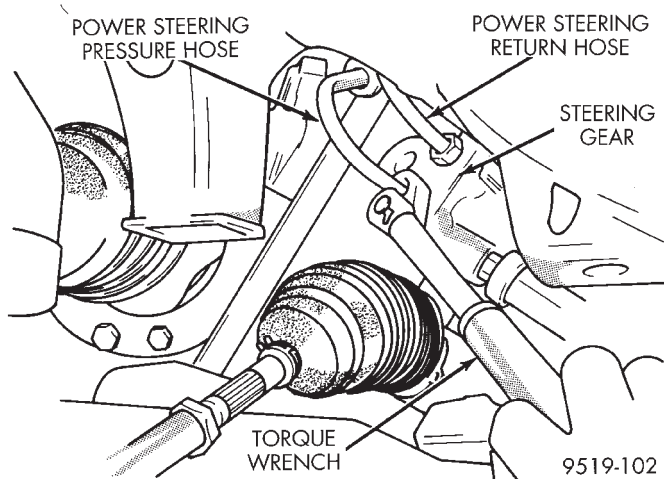

Fig. 17 Power Steering Pressure Hose Tube Nut
(7) Route power steering pressure hose to pressure port on power steering gear. Install power steering pressure hose, on steering gear and loosely install tube nut into steering gear. Then using a crow foot, (Fig. 17) tighten the power steering pressure hose tube nut to a torque of 31 N·m (275 in. lbs.).